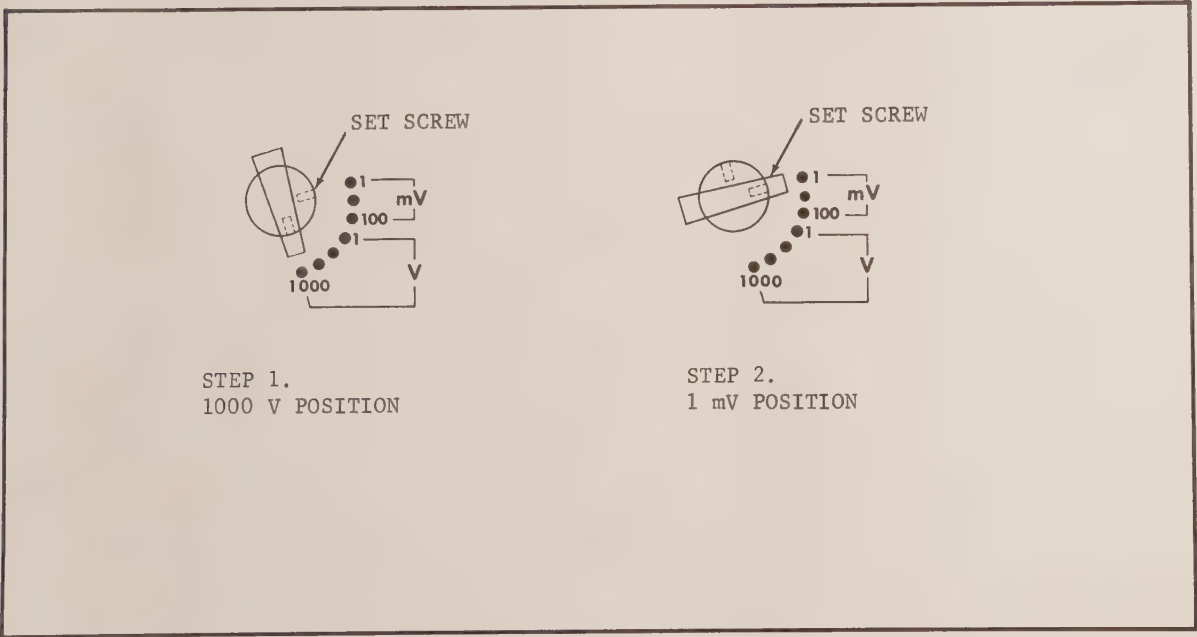
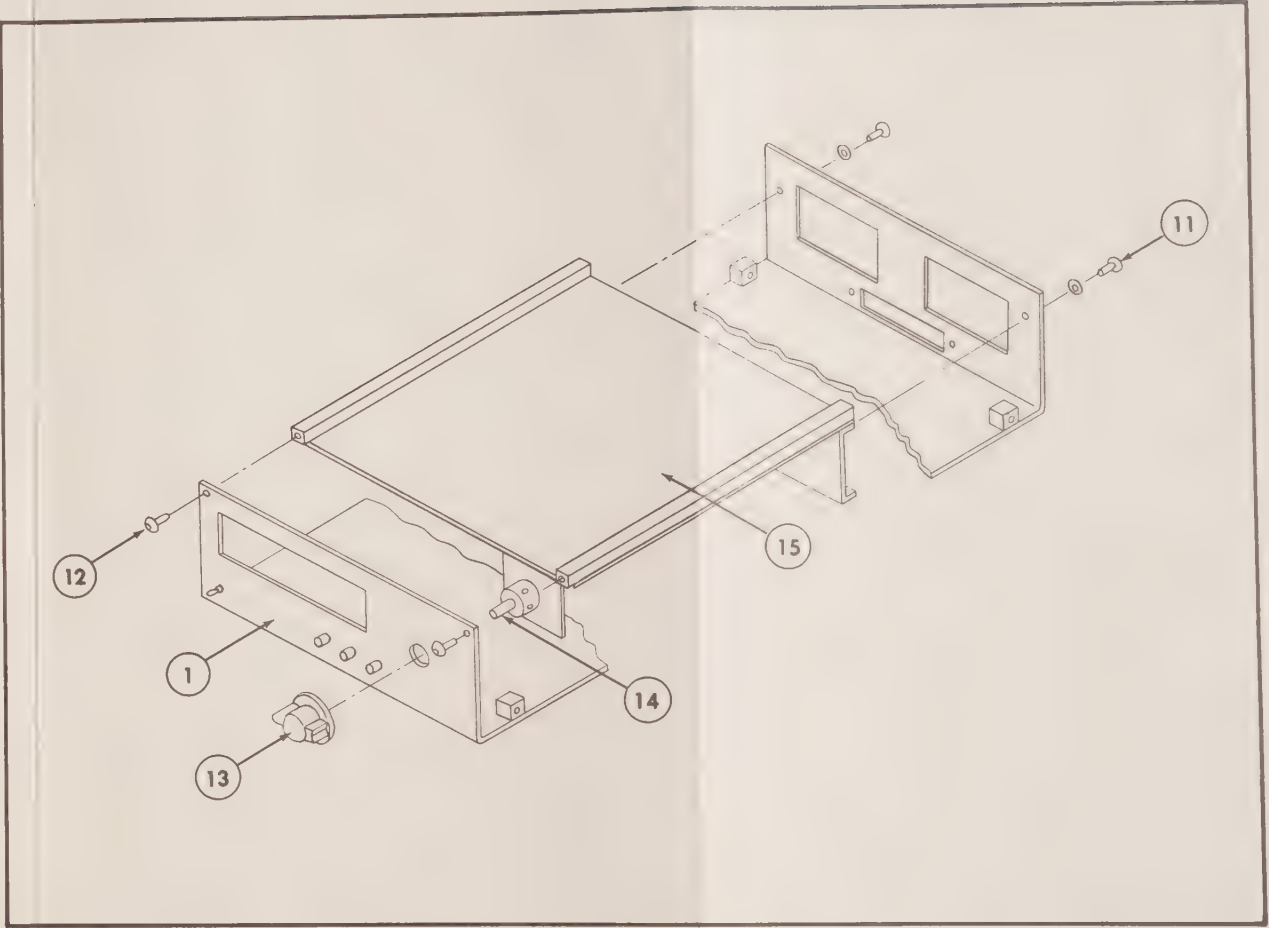

FIGURE 11a. Range Knob Assembly.
FIGURE 11b. Chassis Assembly.
1. Remove the front panel Range knob assembly as shown in Figure 11b. Loosen the two set screws holding the switch coupler to the switch shaft using a 1/16 hex size (Allen Head) screw driver. Figure 11a shows the proper orientation of the Range knob for reassembly.
2. Remove the front panel Allen Head screws in two places as shown in Figure 11b using a 3/32 hex size screw driver.
3. Remove the rear panel Phillips head screws in two places as shown in Figure 11b.